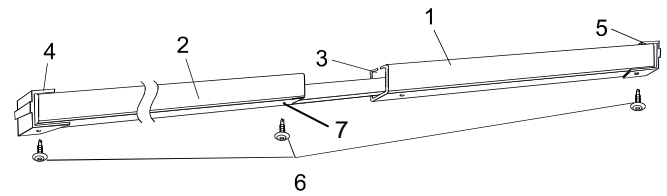

Fig. 15
1. Insert rafter splice (1) into rafter (2) and slide the splice as far as it will go into the rafter (see Fig. 15).
2. With the slots in the rafter and splice (3) facing up, insert the end of the rafter into the front rafter bracket (4).
3. While holding the rafter firmly into the front rafter bracket, carefully slide the splice out of the rafter and into the rear rafter bracket (5).